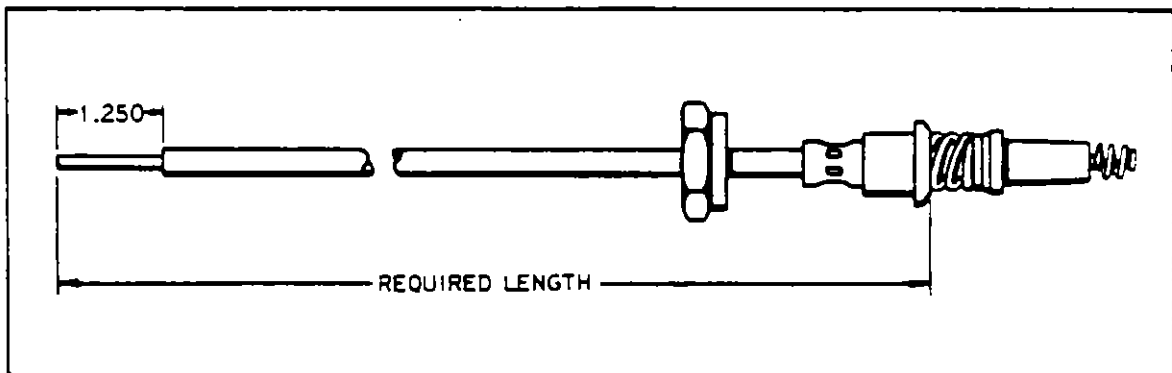

Figure 8-17. Measuring Lead Assembly Length
- (a) Measure the length of the condemned lead assembly. Move coupling nut back on lead assembly and measure from outer end of ferrule at spark plug end (Refer to Figure 8-17.)